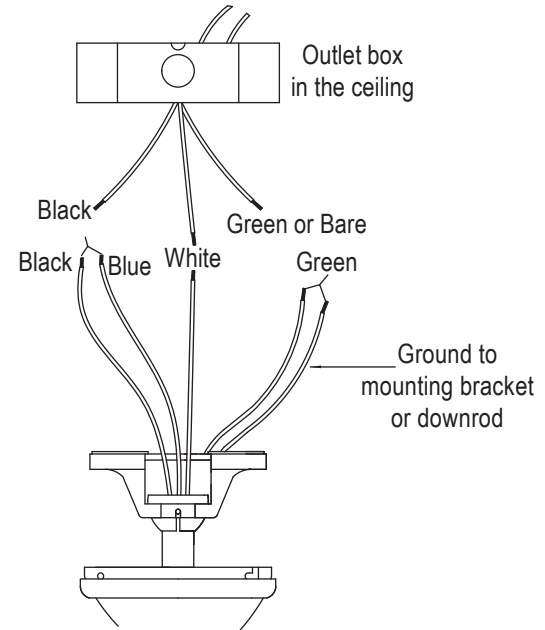

Fig. 11
Step 1. Connect the fan supply (black) wire and light supply (blue) wire to the black household supply wire as shown in Figure 11.